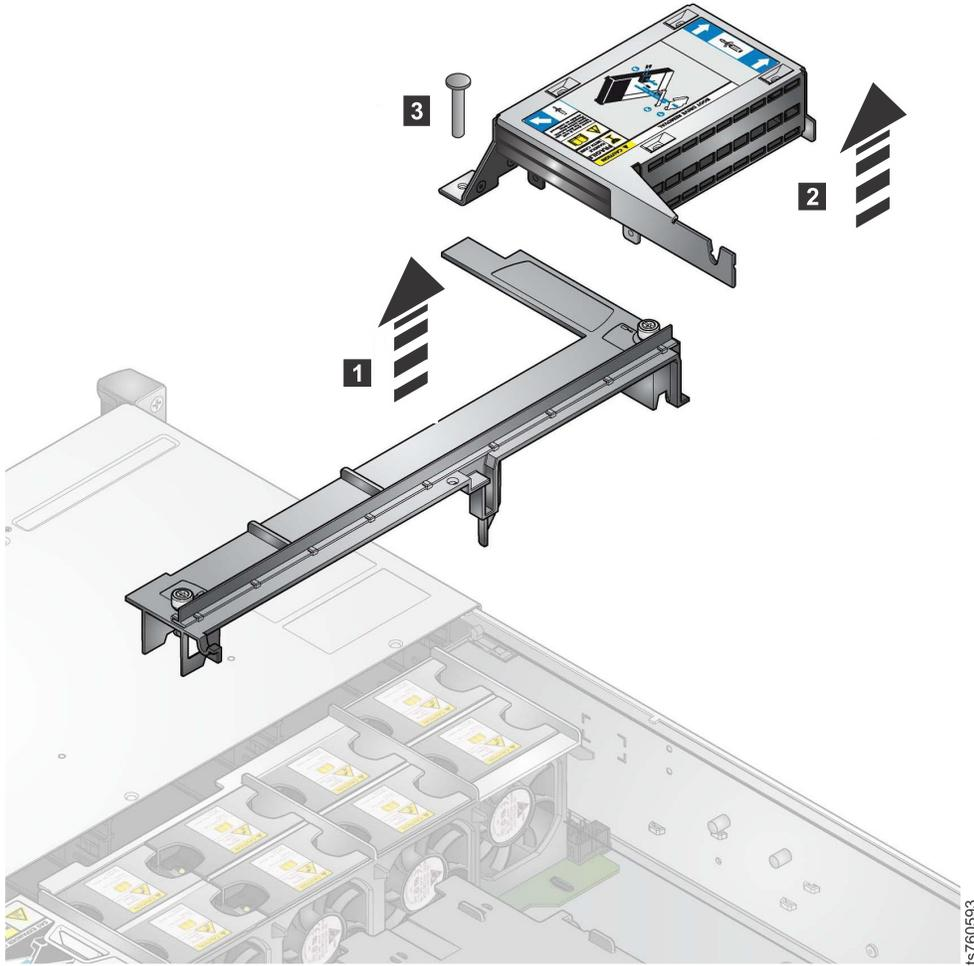

Figure 38. Boot Cage Assembly Retention Screw
- a. Refer to Figure 38 on page 63. Three mounting points hold the boot drive cage in place; a retention screw and two mounting points on the inside of the chassis. With a screwdriver, remove the single upright retention screw **3** from the boot drive cage. You might need to use pliers to hold the post stationary to unscrew the retention screw.
- b. Hold the boot cage and gently pull toward to the center of the chassis. Continue pulling until the boot drive assembly is free from the two mounting pins on the inside of the chassis. See Figure 38, which shows the boot drive assembly and the mounting pins. The boot drive assembly consists of a boot drive cage, two boot drives and a small backplane board.